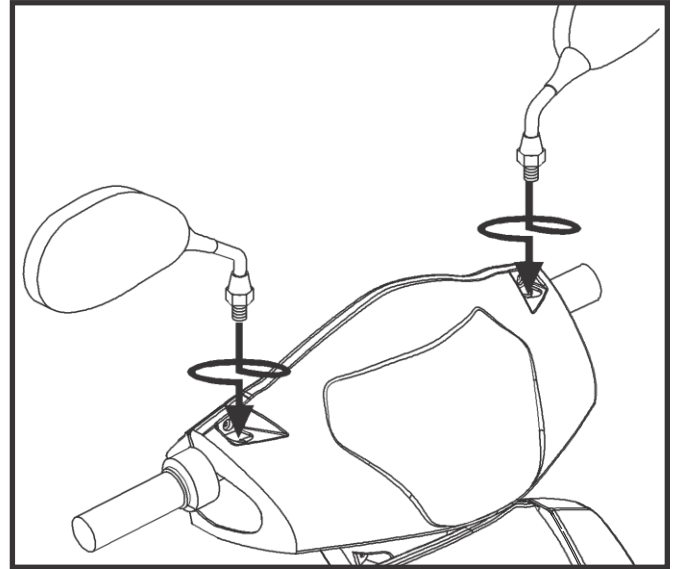

Figure 5 . Mirror Position Installation/Adjustment
1. Insert the threaded end of the mirror holder into the opening and rotate it clockwise until snug. **See figure 5.**